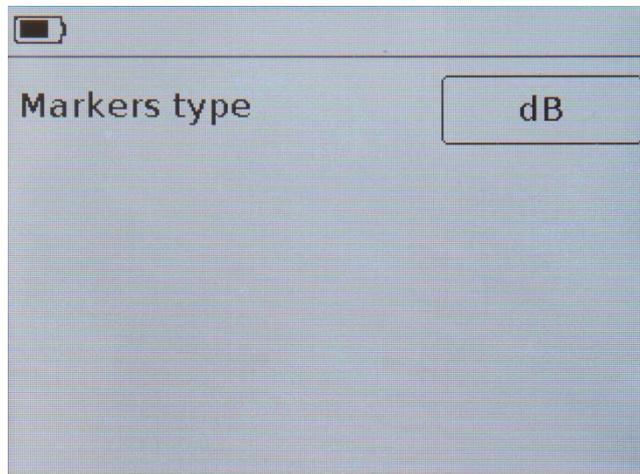

Figure 10.15 – Selecting the units in which cable loss is displayed
- Enter the **Plots** menu (Figure 9.6) and click on the field with the name of the plot. A menu will appear on the device screen as in Figure 10.15.
- To quickly move from the **Loss** plot viewing mode in the unit selection menu (Figure 10.15), press and hold the «**PLOT**» button (14) for about two seconds
10.8.3. Select units of measure that represent cable losses, for example decibels (dB), Figure 10.15, if the cable length does not matter.